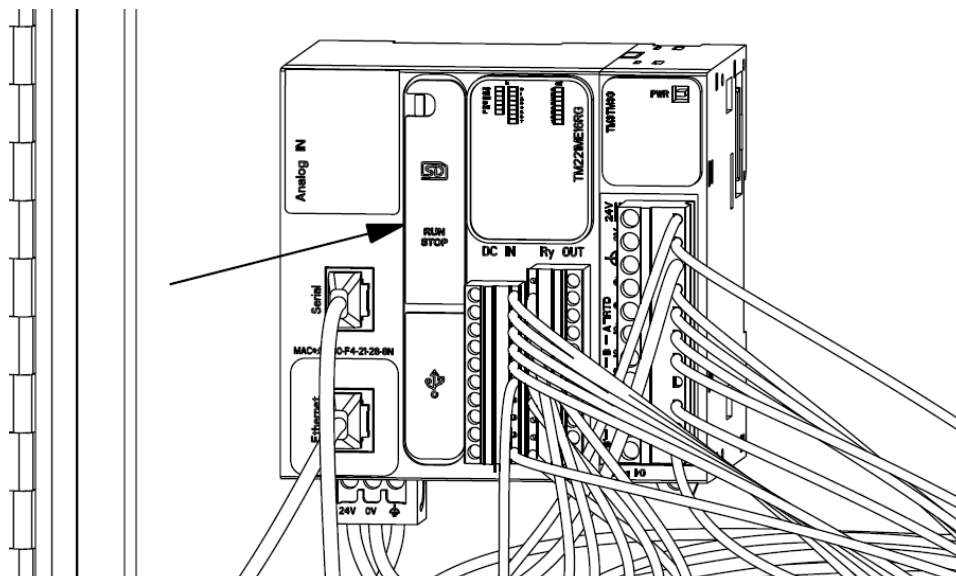

Figure 7-24: PLC port cover
- c. If not previously removed, remove the cover from the PLC to gain access to the SD card port. Reference **Figure 7-24**.